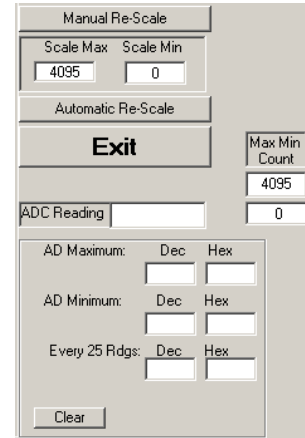

FIGURE 19. SINGLE DATA VIEW WINDOW
- The value in the **"ADC Reading"** and/or **"Lux Reading"** fields are the appropriate output coming out of the sensor according to which Mode is engaged (Figure 19).